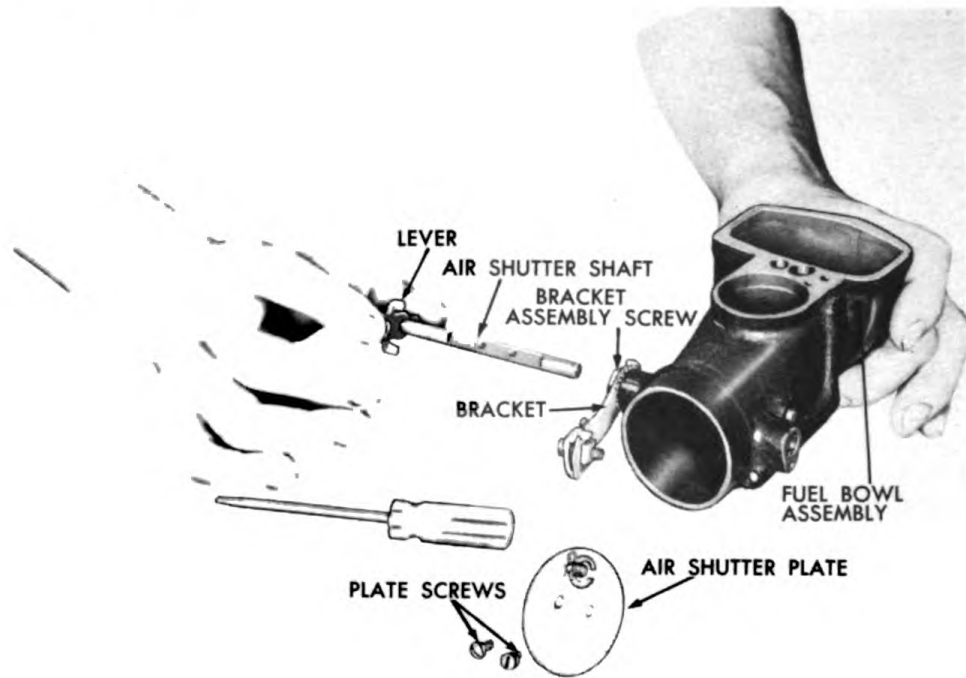

Figure 292. Removing Carburetor Air Shutter Shaft.
- m. Remove air shutter shaft. Figure 292.